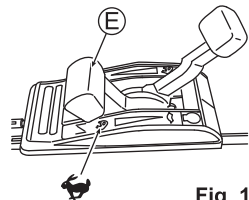

Fig. 16
2. Set the throttle lever (E) to "🐢" to start mowing. (See Fig. 16)